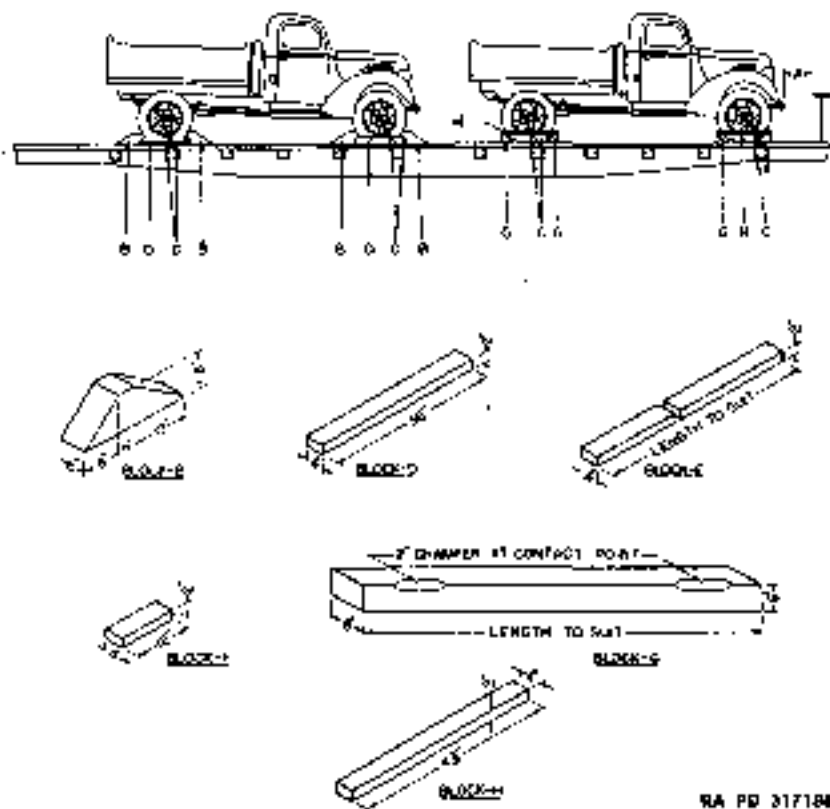

Figure 142—Block Requirements for Securing Wheeled Vehicles on Railroad Cars
(4) **BRAKES.** The brakes must be applied and the transmission placed in low gear, after the vehicle has been placed in position with a brake wheel clearance of at least 6 inches ("A", fig. 142). The vehicles will be located on the car in such a manner as to prevent the car from carrying an unbalanced load.
(5) All cars containing ordnance vehicles must be placarded "DO NOT HUMP."
(6) Ordnance vehicles may be shipped on flat cars, end-door box cars, side-door box cars, or drop-end gondola cars, whichever type car is the most convenient.
(1) **METHOD 1** (fig. 142). Locate eight blocks "B" one to the front, and one to the rear of each wheel. Nail the heel of each block to the car floor, using five 40-penny nails to each block. That portion of the block under the tread will be toenailed to the car floor with two 40-penny nails to each block. Locate two blocks "D" against the outside face of each wheel. Nail the lower block to the car floor with three 40-penny nails, and the top block to the lower block with three 40-penny nails. Pass four strands, two wrappings, of No. 8 gage, black annealed wire "C" through the holes in the wheels and then through
(2) **METHOD 2** (fig. 142). Place four blocks "G," one to the front and one to the rear of each set of wheels. These blocks are to be at least 8 inches wider than the over-all width of the vehicle at the car floor. Using sixteen blocks "F," locate two against blocks "G" to the front of each wheel, and two against blocks "G" to the rear of each wheel. Pass four strands, two wrappings, of No. 8 gage, black annealed wire "C" through the holes in the wheels, and secure as described in method 1 above.